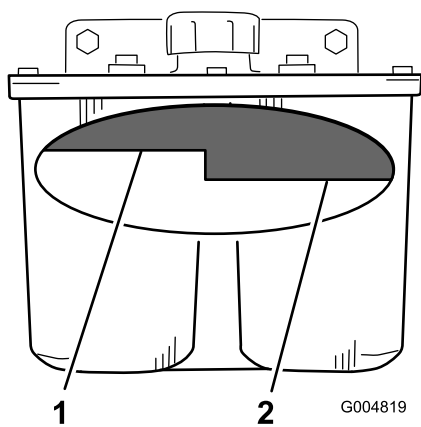

Figure 71
2. Clean the area around filler neck of hydraulic tank (Figure 71).
3. Remove the cap from the filler neck. Look inside to check if there is fluid in the reservoir (Figure 71).
Note: The fluid level should be to the top of the hot level of the baffle, when the fluid is hot (Figure 71).